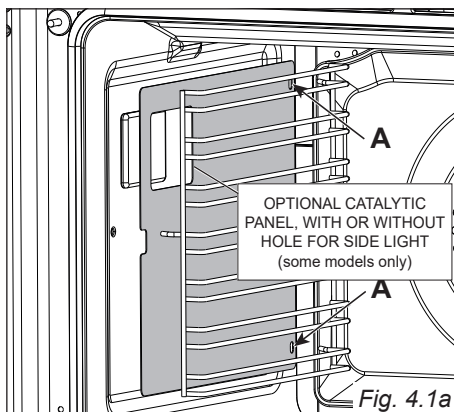

Fig. 4.1a
- Slide the rear prongs of the side rack into the holes “A” at the rear of the oven (fig. 4.1a).